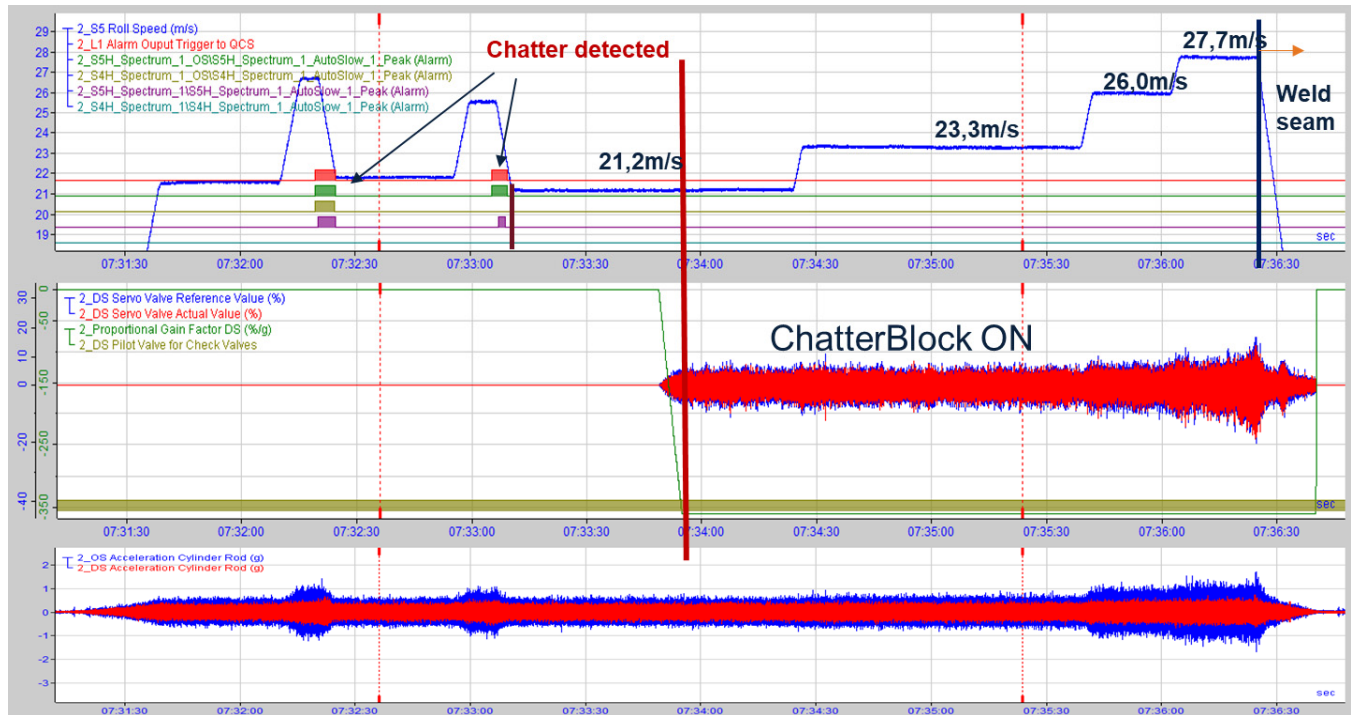

Fig. 8 Evaluation of achievable production speeds with and without ChatterBlock Expert
In this prototype test (see Figure 8), the strip was rolled (1) with deactivated ChatterBlock Expert and (2) with activated.